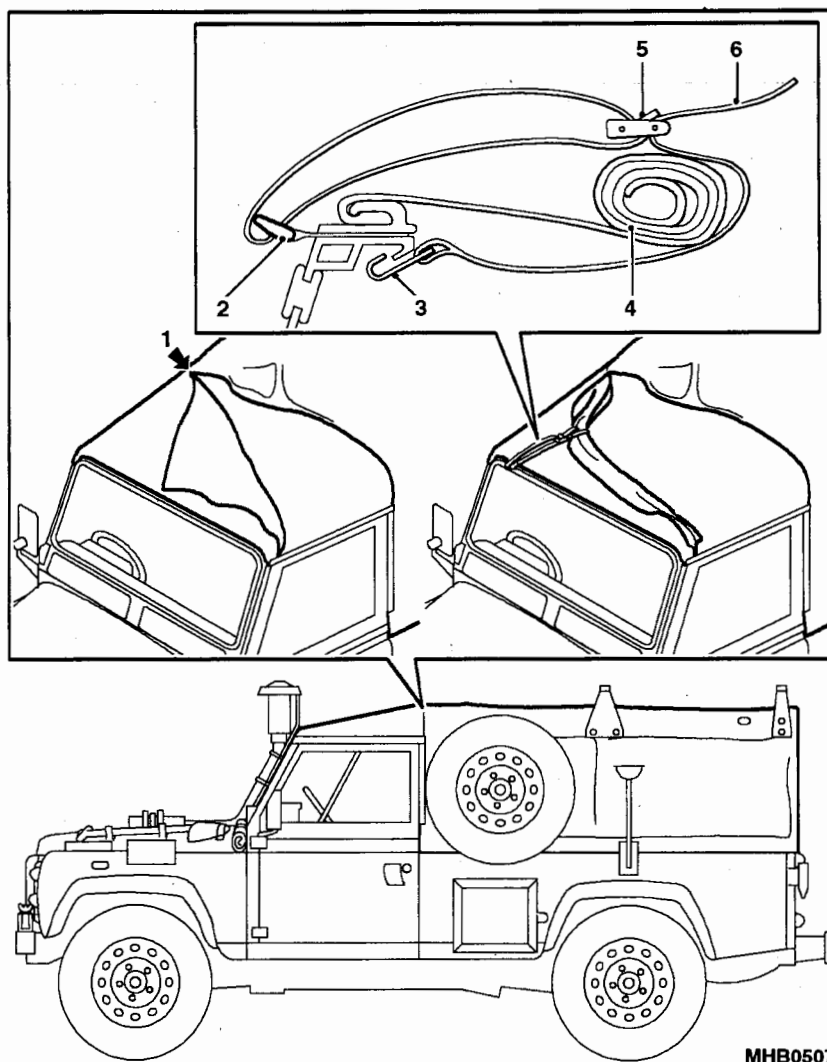

Fig 1 Retaining the hood
- 2.5 Unzip the soft top but not fully, stop just short of the top right hand drain channel (Fig 1 (1)).